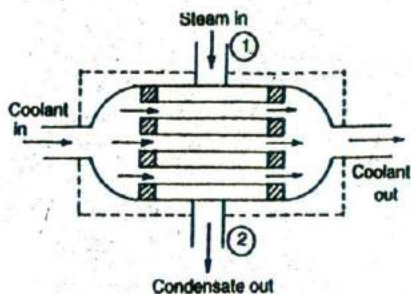

Fig. 3.30. Condenser.
2. **Condenser.** A condenser, as shown in Fig. 3.30 is a device used to condense steam in case of steam power plants using water as the cooling medium, whereas in refrigeration systems, it is used to condense refrigerant vapour using air as the cooling medium. For such a system, there is no change in kinetic and potential energies. Also there is no work done by the system. In other words,